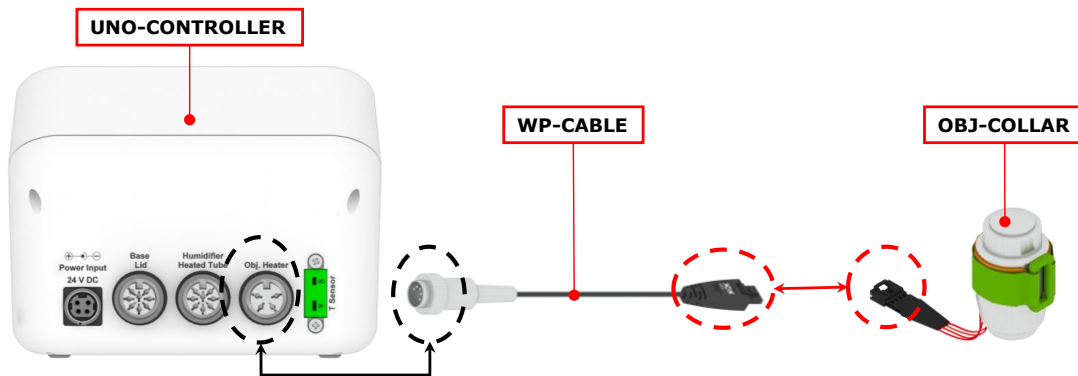

Figure 22. OBJ-COLLAR - Connection.
2. Connect the OBJ-COLLAR cable to its corresponding connector of the WP-CABLE (see Figure 22).
3. Connect the WP-CABLE to “Obj. Heater” connector on the rear panel of UNO-CONTROLLER (see Figure 22).